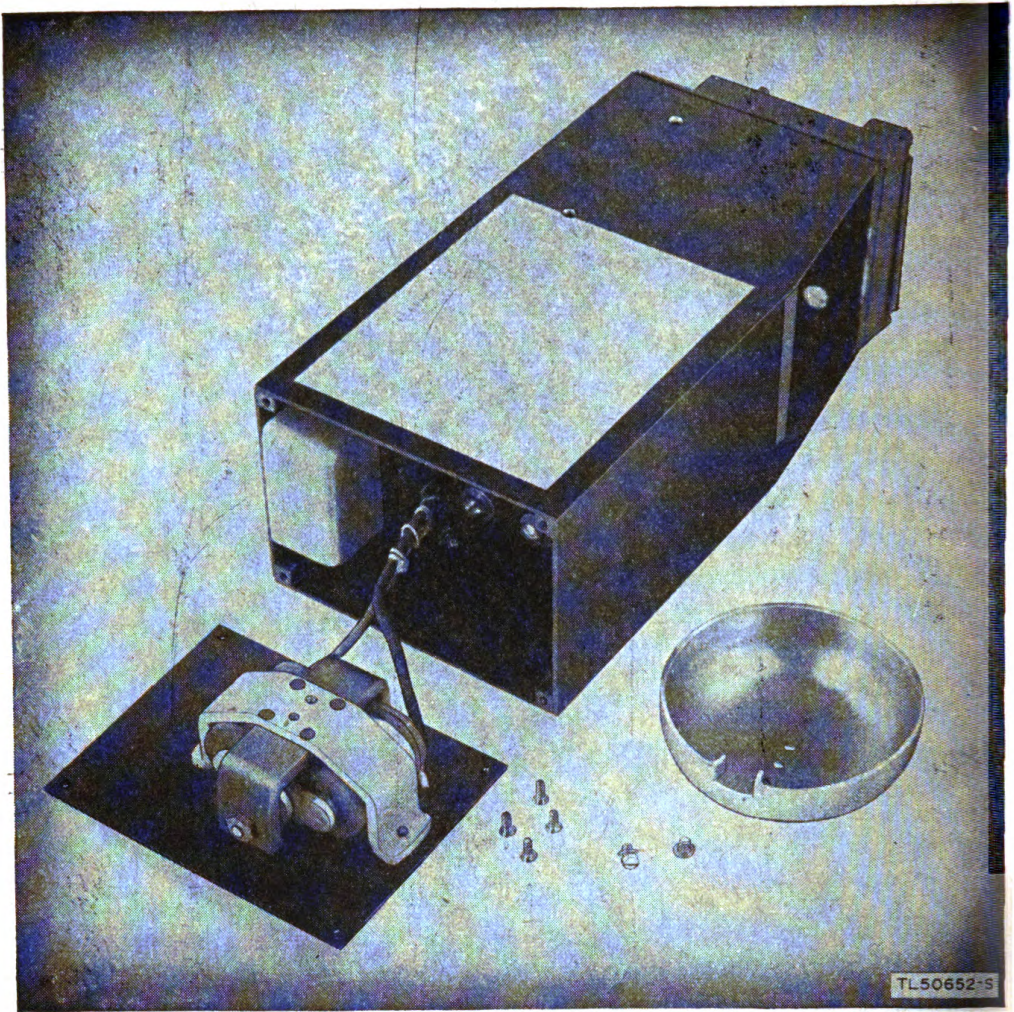

Figure 20. Telephone EE-8, gong removed from ringer assembly.
**b. DAMPING.** (1) *Removal of gong* (fig. 20). With the gong removed, the incoming ringing signal will be a dull vibrating sound. To remove the gong: